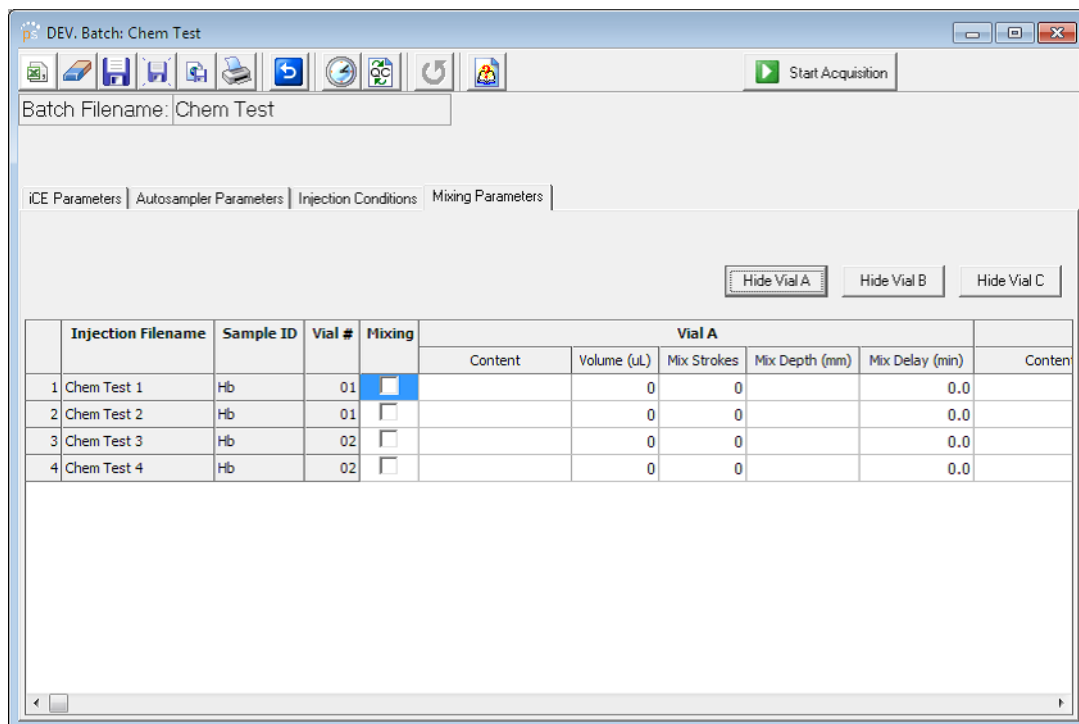

Figure 6-41: Mixing Parameters tab.
1. If you will be using the autosampler for automated sample preparation, select the Mixing Parameters tab (Figure 6-41) during the Batch setup.